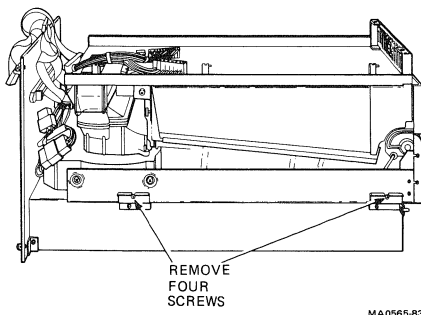

Figure 4-17 Separating the Tabletop Component and Power Supply Assemblies
4. Remove four screws (two on each side of drive) securing component assembly to power supply frame (Figure 4-17).
5. Replace four screws (two on each side of drive) securing mechanics assembly to power supply frame (Figure 4-17).